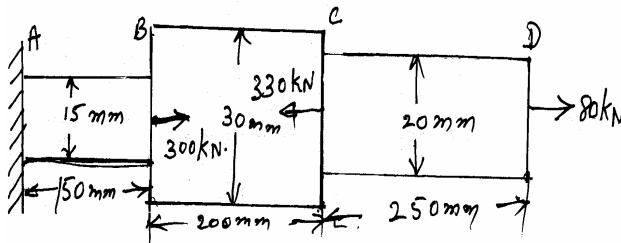

Fig.Q1(c)
- c. A mild steel circular bar has three segments as shown in Fig.Q1(c). Find